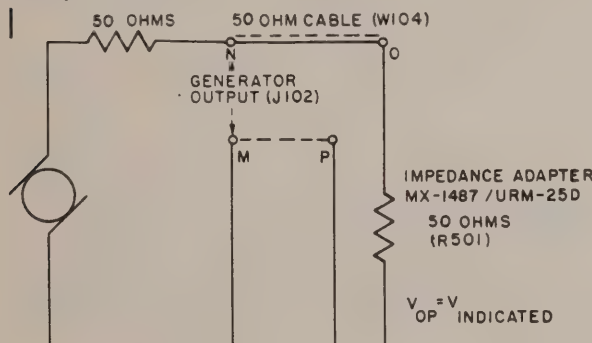

Figure 4-4. Equivalent Circuit of RF OUTPUT X-MULT (J102) with Impedance Adapter MX-1487/URM-25D added
b. It is apparent from figure 4-4 that the voltage appearing across this terminating resistor at points "OP" will be one half the open circuit voltage across the generator output at J102, represented by points